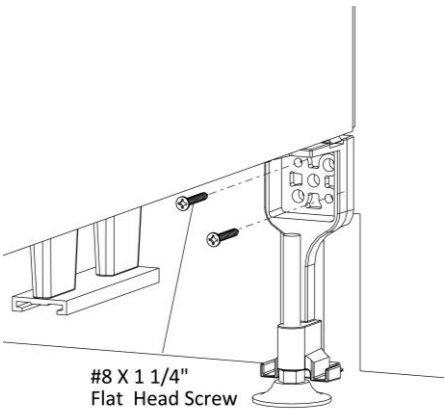

Figure 3
- Drive two #8 X 1-1/4" Flat Head Screws through the holes in the standard panel leg into the pre-drilled holes of the gallery panel, (Figure 3).